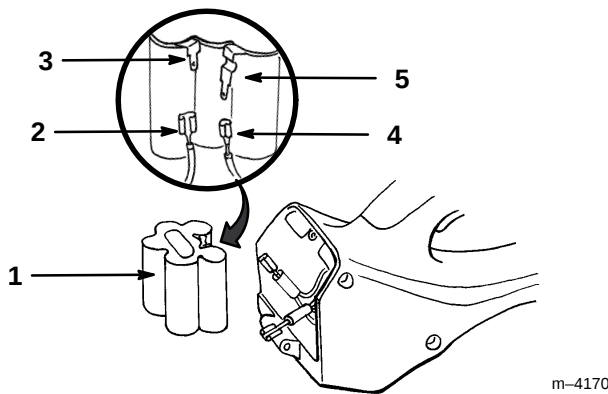

Figure 16
2. Pull the battery out of the trimmer (Fig. 16).
3. Disconnect the the wire leads from the battery (Fig. 16).
12. Connect the wire leads to the battery (Fig. 16).
4. Connect the wire leads to the new battery (Fig. 16).